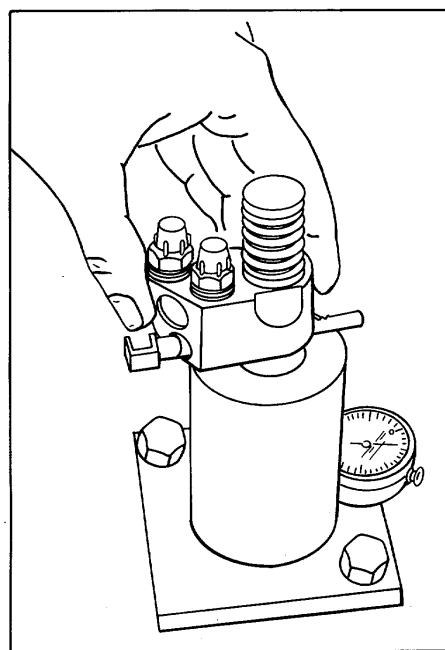

Figure 43. Checking Injector Spray Tip Concentricity with Tool J 5119.
1. Place the injector in the concentricity gage J 5119 as shown in Fig. 43 and adjust the dial indicator to zero.